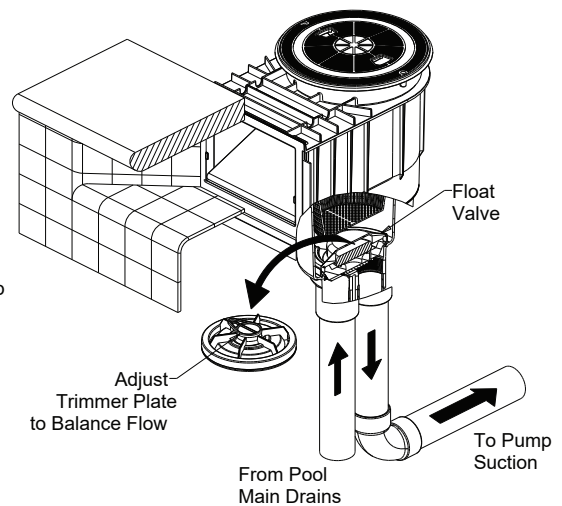

Figure 5: Typical residential installation with float valve. Use with at least two suction outlets.
Skimmers with Float: Remove deck lid, skimmer basket and float valve to adjust trimmer plate on bottom of float (See Figure 5). Move trimmer plate to side to open trimmer port allowing more flow through skimmer and less flow through main drains, or other skimmers; close trimmer plate for less flow through skimmer and more flow through main drains, or other skimmers.
3. Size suction pipe based on the design flow rate such that the water velocity in the pipe will not exceed six feet per second. Use multiple pipes or the next size larger pipe for long pipe runs. See figures 5 and 7 piping layout